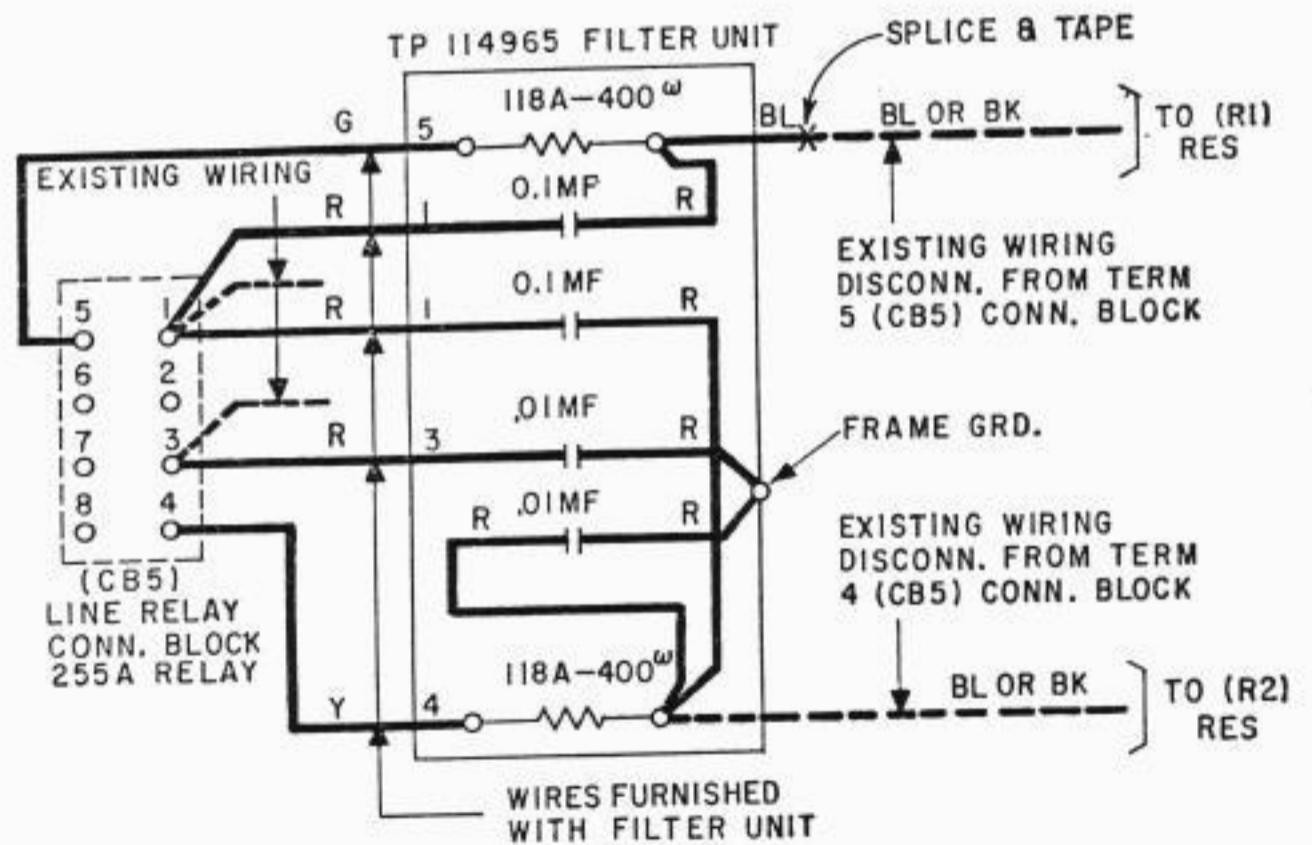

Fig. 1
3.01 **Connections for Neutral Operated Line Relay are as follows** (see Fig. 1): For left-hand, right-hand, upper and lower, front and rear locations specified in the following test, refer to the observer's left or right when viewing the teletypewriter base from the position of an operator.